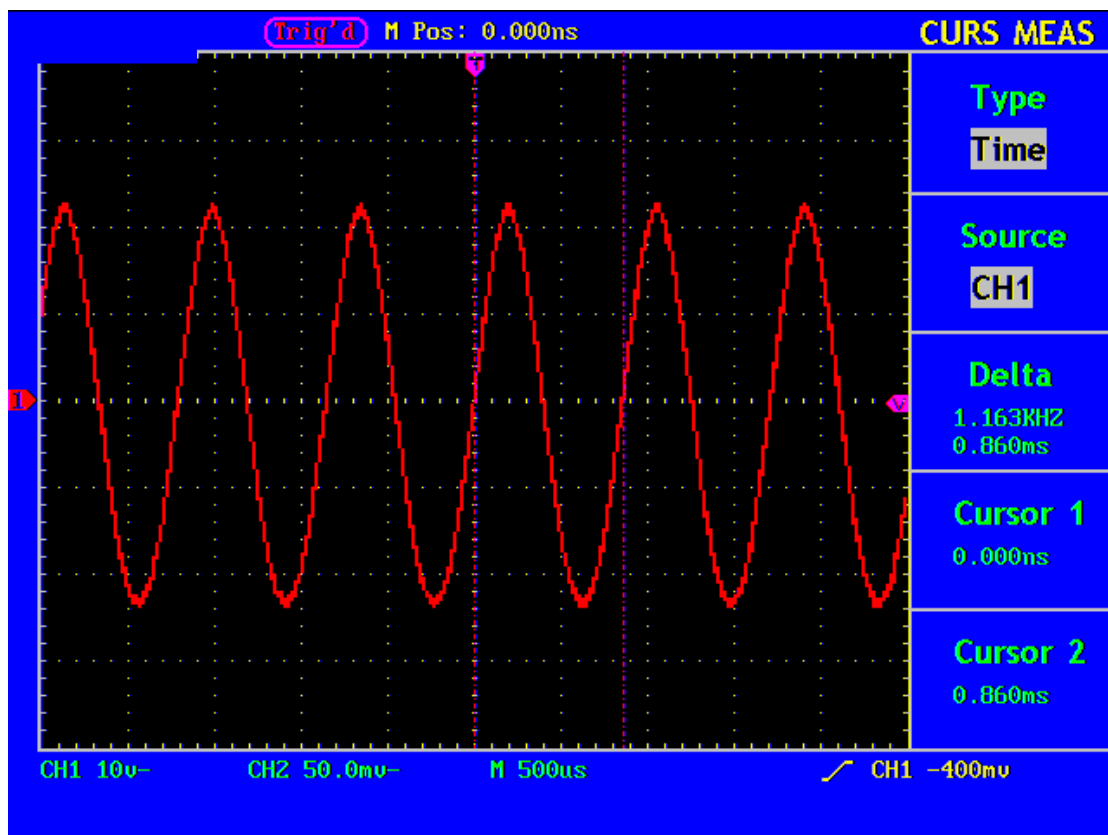

Fig. 52 Wave Form of Cursor Measurement
4. Adjust the positions of **CURSOR 1** and **CURSOR 2** according to the measured wave form, with the cycle and frequency of Cursor 1 and Cursor 2 displayed in the increment window. The current position of Cursor 1 is displayed in the Cursor 1 window and that of Cursor 2 is displayed in the Cursor 2 window (see Fig. 52).